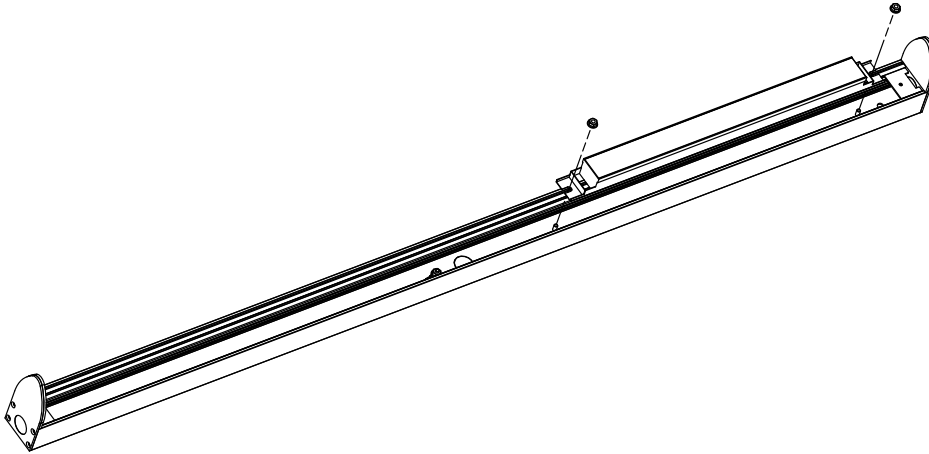

Figure 4
6. Remove the nuts securing the driver and replace. See Figure 4.